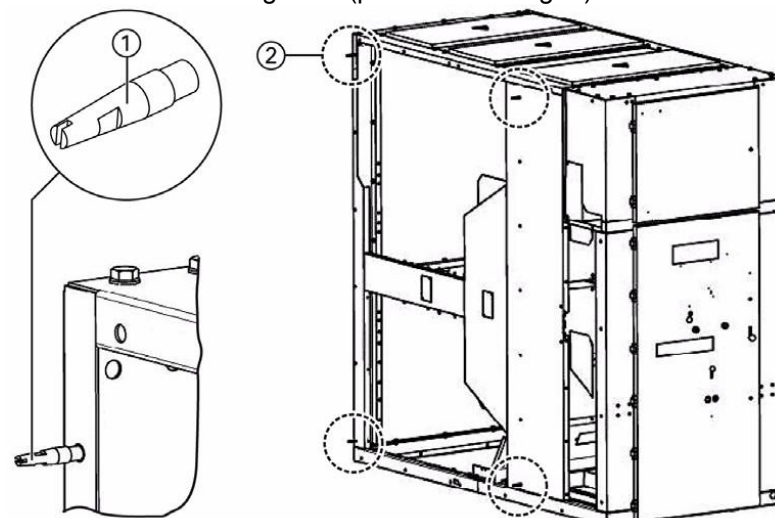

Fig17. Using the fixing tools to bolt panels together
- ⇒ Mount four fixing tools (pos.nr. ① in fig17) at the four corners (pos.nr. ② in fig17).